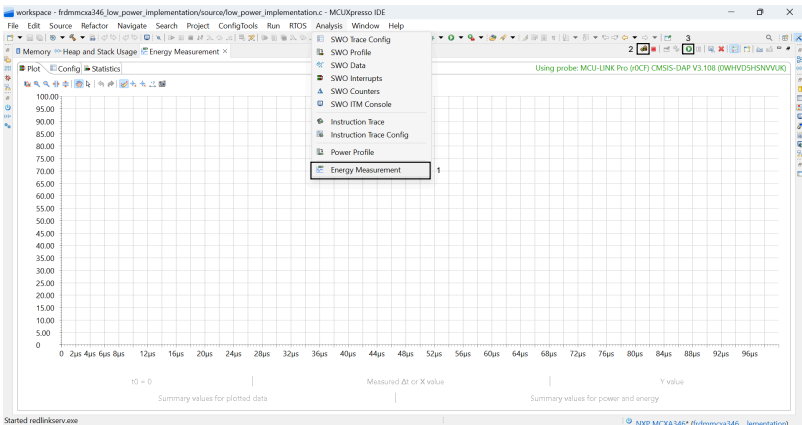

Figure 12. MCUXpresso energy measurement
2. To measure the current using the MCUXpresso IDE, follow the steps in Figure 12.